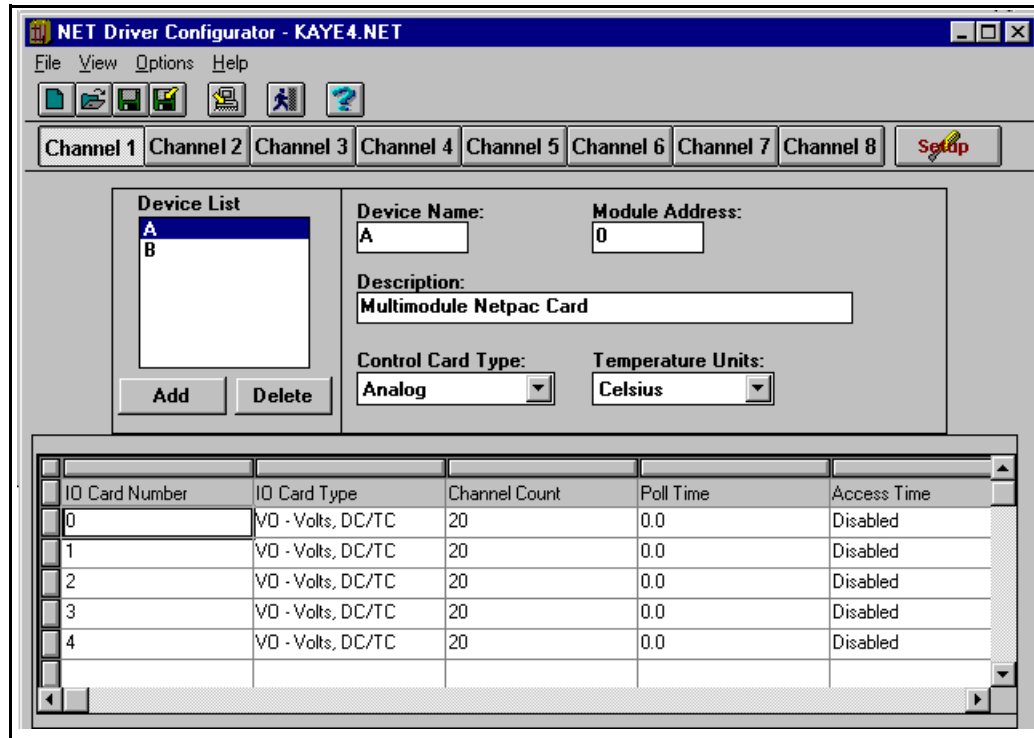

Figure 8: Driver Configuration Screen
- At the NET Driver Configurator dialog box, enter the name and module address of the Netpac device, as shown in Figure 8 below. The description field is optional. Select the control card type and temperature units.